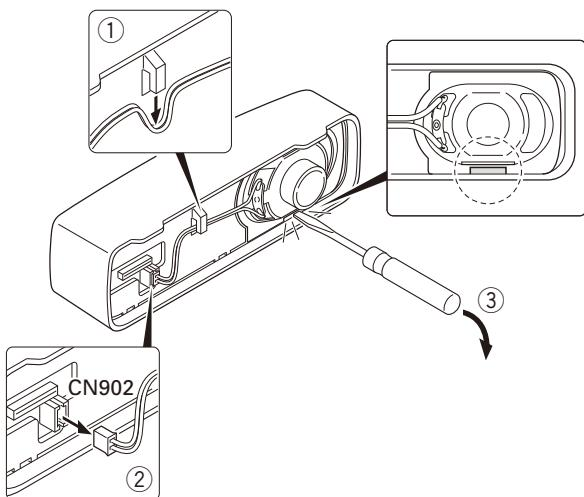

Fig. 2-1 / 图 2-1
1. Remove the speaker lead from the holder hook. (①)
2. Remove the speaker connector from the display unit connector (CN902). (②)
3. When removing the speaker hardware fixture, insert a flat-head screwdriver at the position shown in Figure 2-1 and tilt it in the direction shown by the arrow. (③)
4. To remove the holder, insert a flat-head screwdriver into tab of the holder and tilt it in the direction shown by the arrow. (④)
1. 从扬声器座挂钩取下扬声器导线。 (①)
2. 从显示单元连接器 (CN902) 取下扬声器连接器。 (②)
3. 取下扬声器硬件夹具时，请在图 2-1 所示位置插入平头螺丝刀并按箭头方向将其翘起。 (③)
4. 如需取下扬声器座，请将平头螺丝刀插入扬声器座的凸起并按箭头方向将其翘起。 (④)